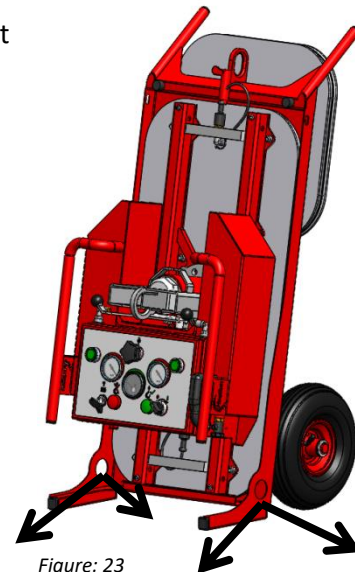

Figure: 23
- If the vacuum lifter is on the transport dolly, the transport dolly can be secured as follows (see figure 23). There are two holes at the bottom of the transport dolly. These can be used to secure the transport dolly in place with lashing straps.